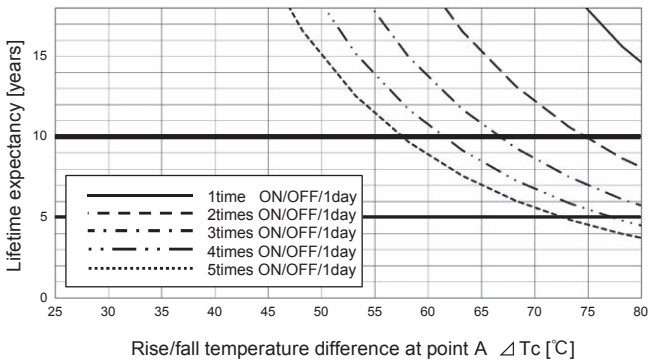
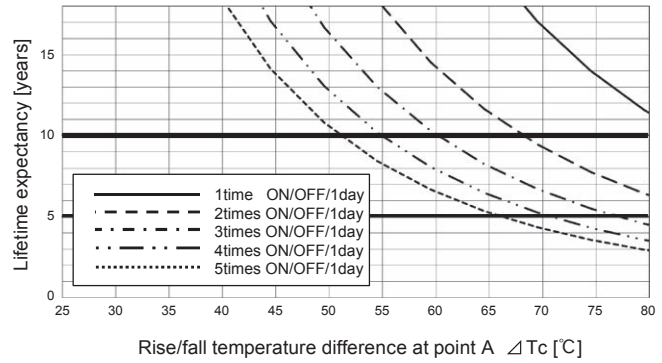
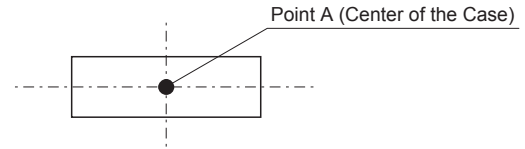

Fig.9.1 Lifetime expectancy against rise/fall temperature difference (MG1R5)
Fig.9.2 Lifetime expectancy against rise/fall temperature difference (MG3)
Fig.9.3 Temperature Measuring Point on the case (Top View)
■ Product lifetime expectancy depends on case temperature difference (T_c) and number of cycling in a day is shown in Fig.9.1, Fig.9.2 (It is calculated based on our accelerated process test result.) If case temperature changes frequently by changing output load factor etc., the above the lifetime expectancy design should be applied as well. And point A which is shown in Fig.9.3 must keep below 110°C.
■ The warranty period is basically 10 years, however it depends on the lifetime expectancy which is shown in Fig.9.1, Fig.9.2 if it is less than 10 years.